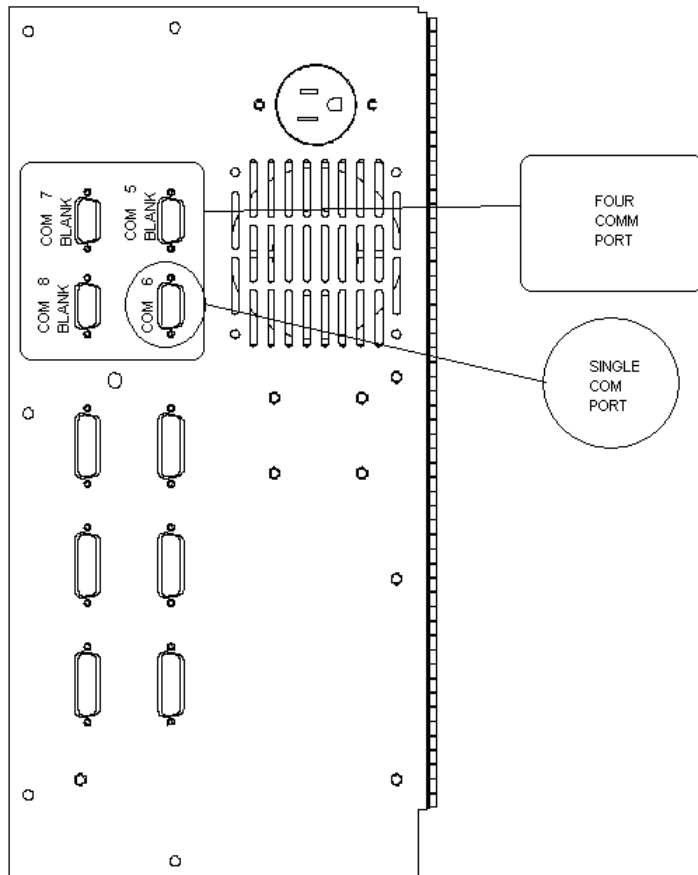

FIGURE 9. Vitalbus Comm Port Options
- 6.16 Identify the number of Vitalbus HUB communication ports. Skip to Step 6.18 if the Vitalbus HUB assembly contains only a single COM port. See Figure 9.